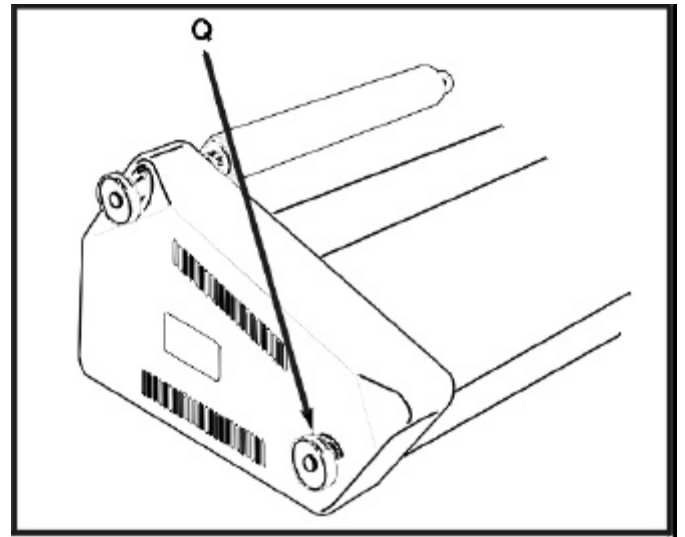

Fig. 8
Q. FILM TENSION ADJUSTMENT: Allows the operator to increase or decrease film web tension as needed to reduce curl and wrinkles, (Figure 8).